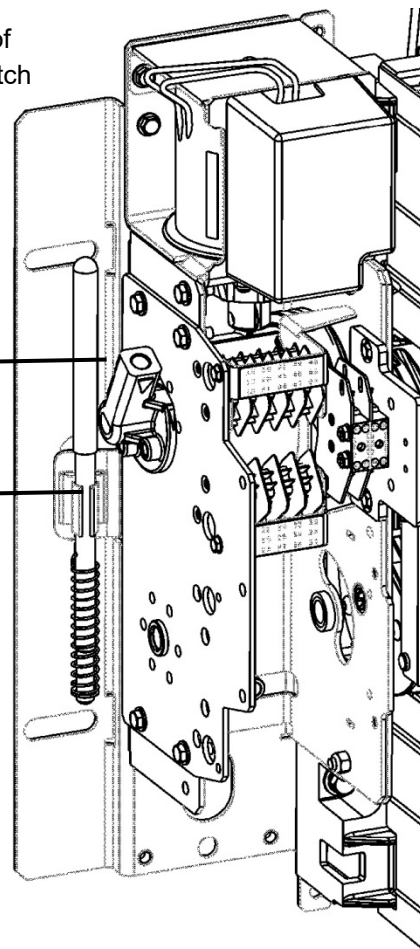

Figure 2 Maintenance handle and its storage clips.
1. After de-energizing both power sources, open the enclosure door. Locate and remove the maintenance handle from the clips on the left side of the transfer switch frame. Insert the handle into the hole in the molded hub on the left side of the operator. See Figures 2 and 3 and Table B.